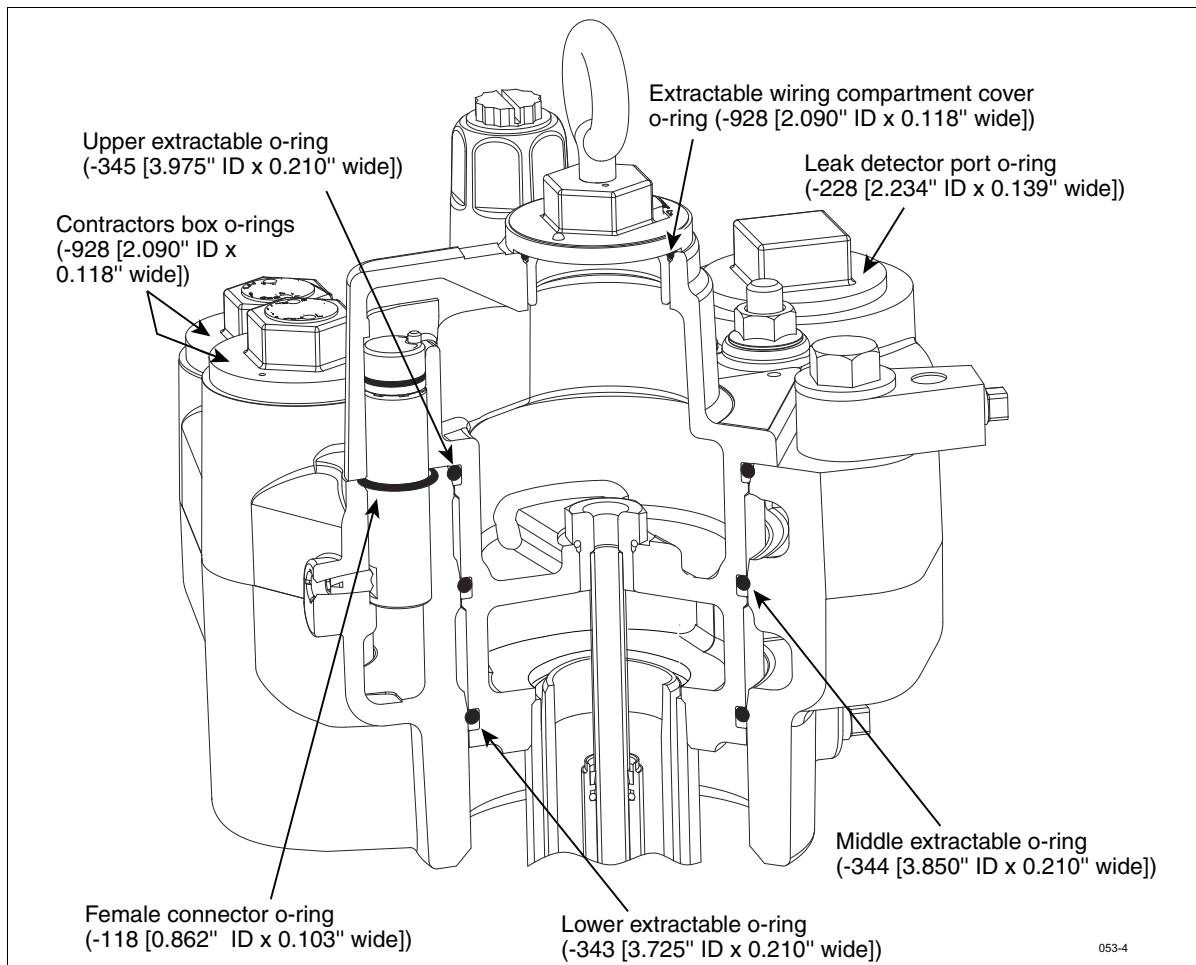

Figure 5. Locating Packer And Manifold O-Rings
petroleum jelly and then install them in their assigned grooves in the extractable (see Figure 5).
13. Remove the manifold's female connector's o-ring (see Figure 5). Get a 0.862" ID x 0.103" wide o-ring from the hardware/seal kit and lubricate it with petroleum jelly. Slide the o-ring over the female connector and push it down into its groove.